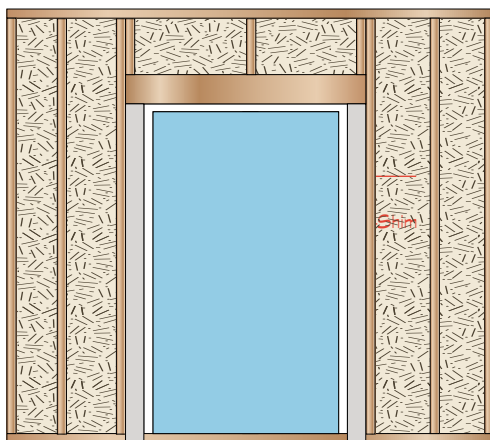

FIGURE 9
9. The door sill must be supported in a straight and level position, with shims at all locations where the jamb, meeting stiles, and pull stiles meet the sill. Multiple door units should have a shim under each mullion, at the jambs (level with the latch on the strike side) and at the meeting stiles (Figure 9).